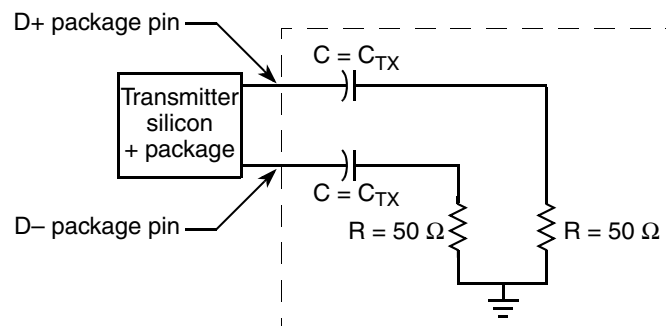

Figure 41. Test/Measurement load
- Specified at the measurement point into a timing and voltage test load as shown in Figure 41 and measured over any 250 consecutive transmitter UIs.
1. Specified at the measurement point and measured over any 250 consecutive UIs. The test load in Figure 41 must be used as the receiver device when taking measurements. If the clocks to the receiver and transmitter are not derived from the same reference clock, the transmitter UI recovered from 3500 consecutive UI must be used as a reference for the eye diagram.